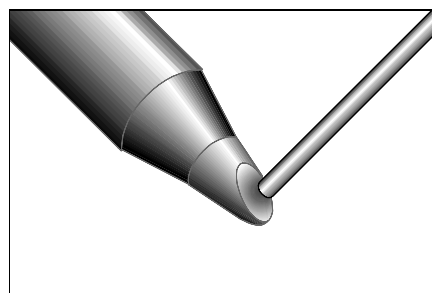

Figure 2: Apply solder to the continuous flow solder tip to create a convex bead of molten solder.
5. Apply solder to the continuous flow solder tip to create a convex bead of molten solder on the tip. (See Figure 2).